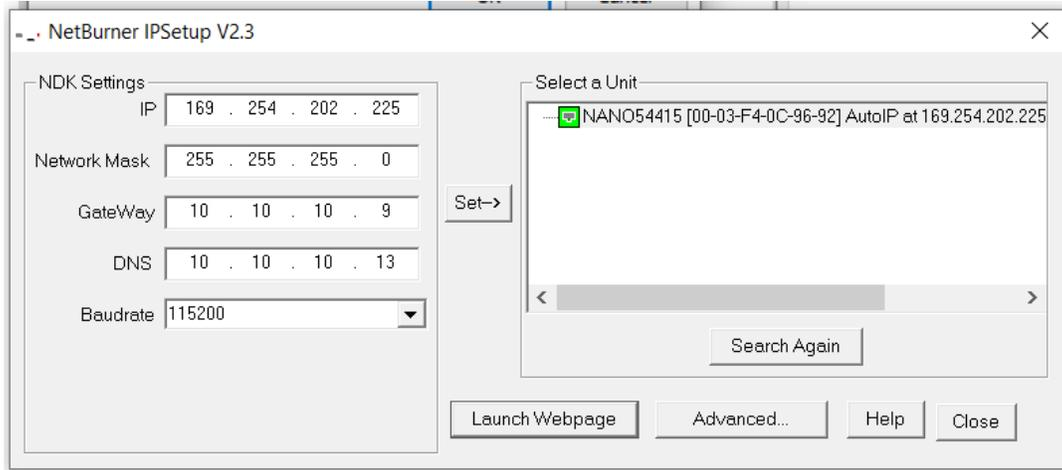

Figure 4.5 – IPSetup Displaying the Current IP Address
- IPSetup shows the name of the application as shown on Figure 4.5 and 4.6 above. The name is composed of letters VRTX and 4 last HEX digits of unit's MAC address. For example: VRTX9692 also referred to as the NetBIOS name.